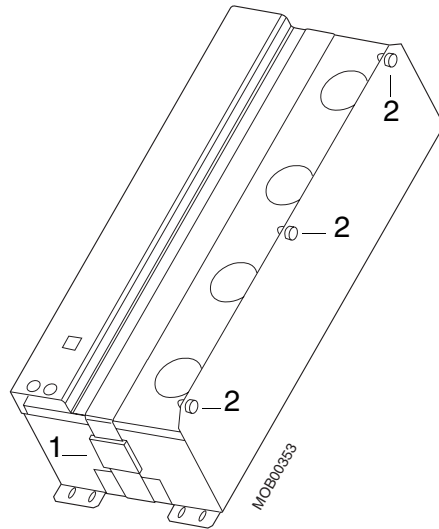

Fig. 2
3. Open the holding belts (1/Fig. 2) and open the battery boxes by loosening three screws (2/Fig. 2).